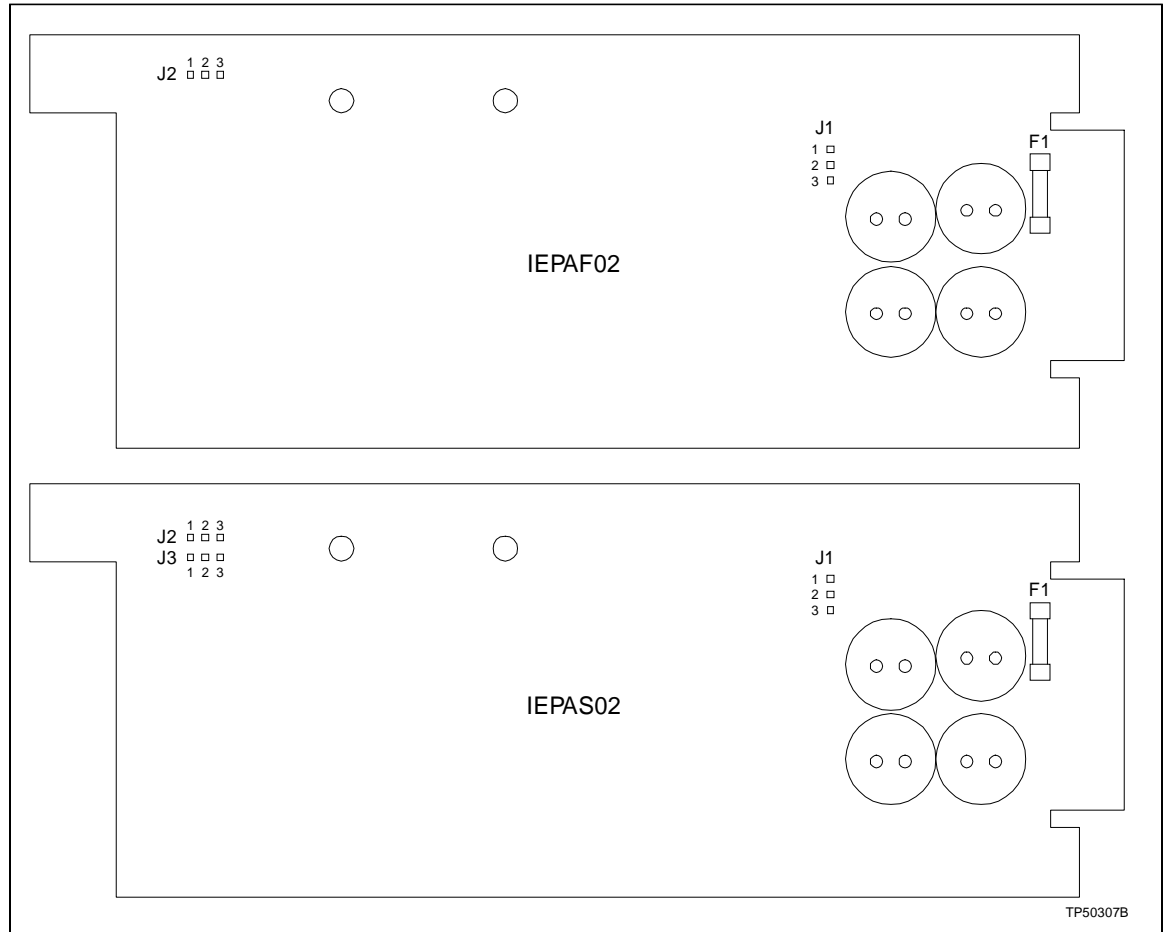

Figure 3-6. IEPAF02 and IEPAS02 Power Module Board Layout
1. Set jumpers J1 through J3 on the IEPAS02 module and set jumpers J1 and J2 on the IEPAF02 module (the IEPAF02 module does not have J3) for the module operation desired. Table 3-3 lists the IEPAS02 and IEPAF02 jumper settings. Figure 3-6 shows the jumper locations on the IEPAS02 and IEPAF02 power modules. Refer to Table 4-2 for information on the monitoring priority levels of the power module jumper settings.